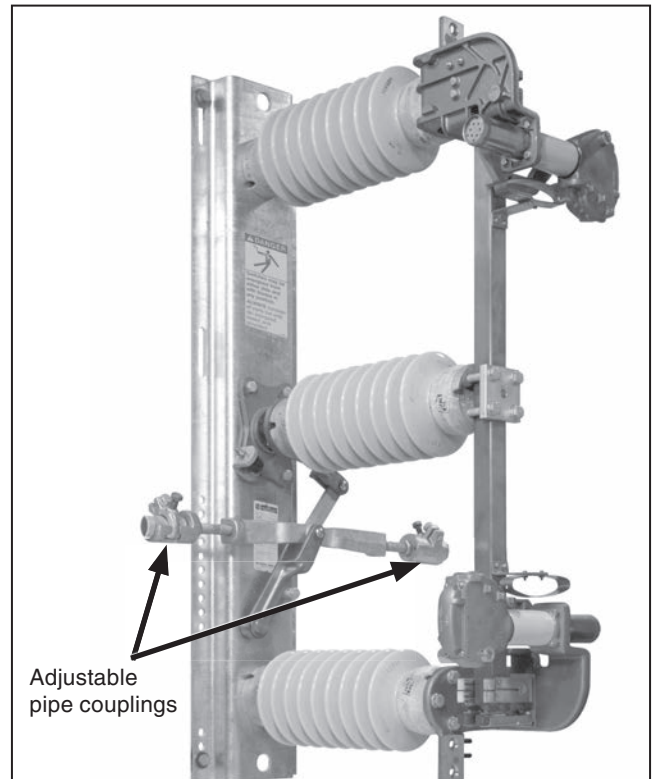

Figure 3. Attach the pipe couplings to the switch toggle mechanism.
STEP 2. Attach pipe couplings to the toggle mechanism of each switch pole. Each toggle mechanism includes a 1/4-inch and a 3/4-inch spacer. Use one or both spacers, depending on the number and type of coupling(s). See Figure 3 as well as the instruction tag attached to the toggle mechanism.